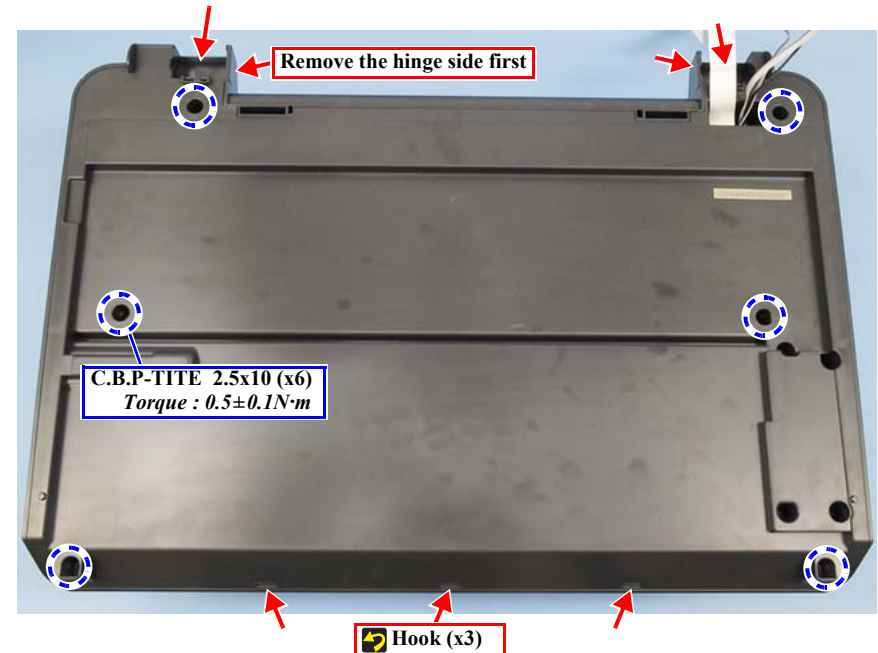

Figure 4-39. Removing the Scanner Housing
2. Remove the screws (x6) on the bottom of the Scanner Unit. (Fig. 4-39)
- Tighten the screws in the specified order. (Fig. 4-39)